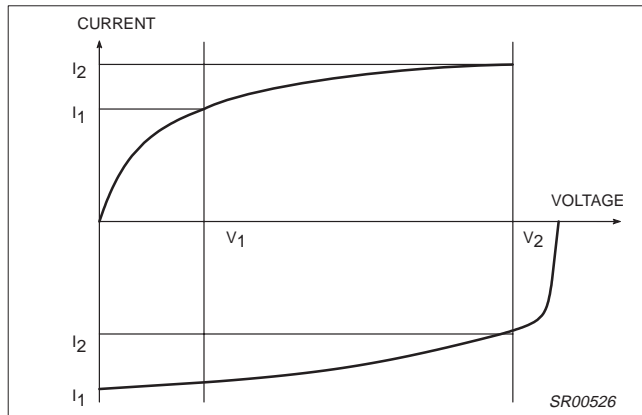

Figure 3. Relative Output Current Variation
- The relative output current variation is defined thus: $\frac{\Delta I_{OUT}}{I_{OUT}} = 2 \cdot \frac{(I_2 - I_1)}{I(I_2 + I_1)}$; WITH $V_1 = 0.7\text{V}$, $V_2 = V_{CCCP} - 0.8\text{V}$ (see Figure 3).